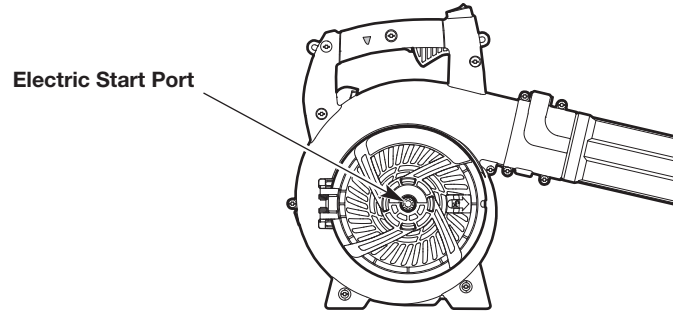

Fig. 14
5. Insert the electric start accessory into the electric start port (Fig. 14).